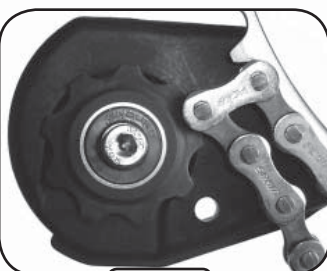

Fig 7a
10) Adjust the lower slider so that the outer guard overlaps with the outer surface of the chainring. The lower idler should be within about 1/2" of the chainring. This will allow for a doubled-over chain to clear itself from the mechanism (see Fig 7a and 7b). Torque the screws to 8 in-lbs (just a couple of turns past finger tight; the nyloc nut will hold it tight).